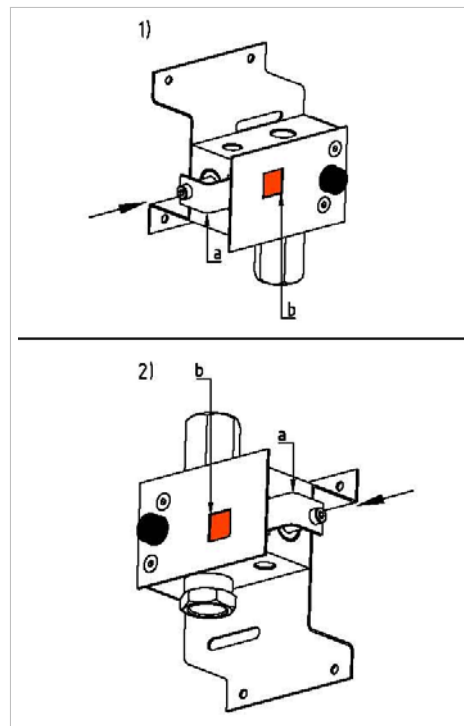

Figure 6: Position of RTC visual indicator
6. Check the position of the visual indicator. The visual indicator must be positioned at „green“; if not, press the visual indicator angle towards the valve until the visual indicator is at „green“ (refer to Figure 6)!
**!** If the visual indicator is no longer in „green“ position, or if the slider is activated at the RTC-CLOSE valve (Figure 6),  $CO_2$  might have been released into the system and all connected components might be under high pressure. Remove the  $CO_2$  bottle as described under *Restarting operation/reset*.